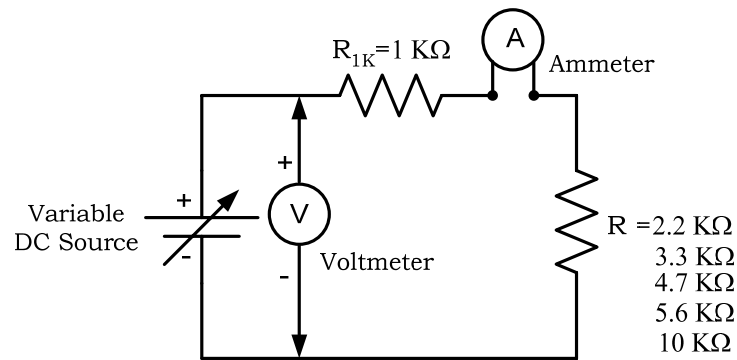

Figure 2.2: Verification of Ohm's Law
- Construct the circuit of Figure 2.2. Do not switch on the power supply.
- Now turn on the power supply. Measure and record the current I in turn, at each of the resistance settings shown in the Figure 2.2.